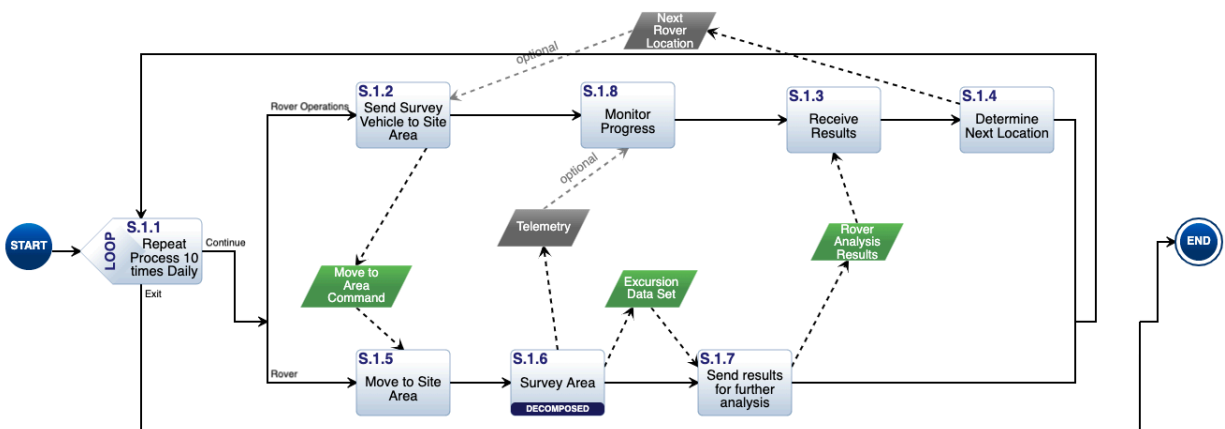

Figure 26. Updated Scenario 1 Model
9. Update the Action Diagram for “Conduct Initial Site Survey” to match Figure 26.